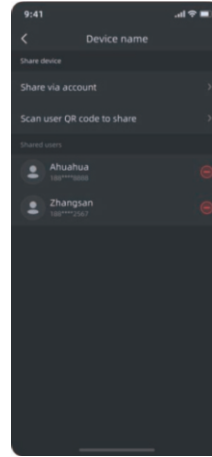

Figure 2
- 2 )Figure 2: Supports sharing devices through accounts or QR codes;Display shared users.